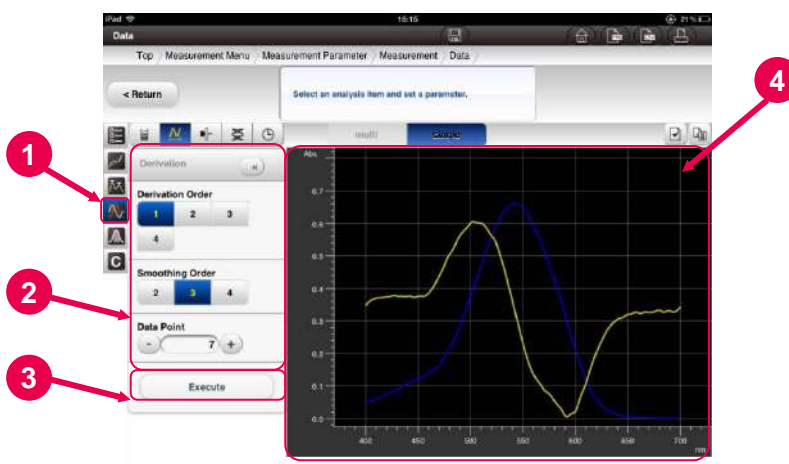

Fig. 5-51 Differentiation Setting Parameters Window
- (1) To specify differentiation settings, press the [Differentiation Tool Icon] button .
- (2) The differentiation setting parameters (Fig. 5-51) are displayed. See Table 5-24 for the differentiation setting parameters.